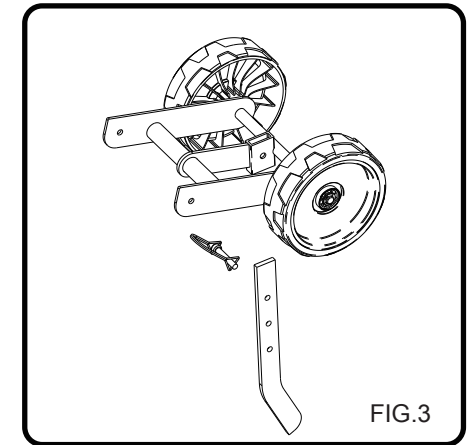

FIG.3
Step 3: Installing The Depth Regulator (See Fig.3)